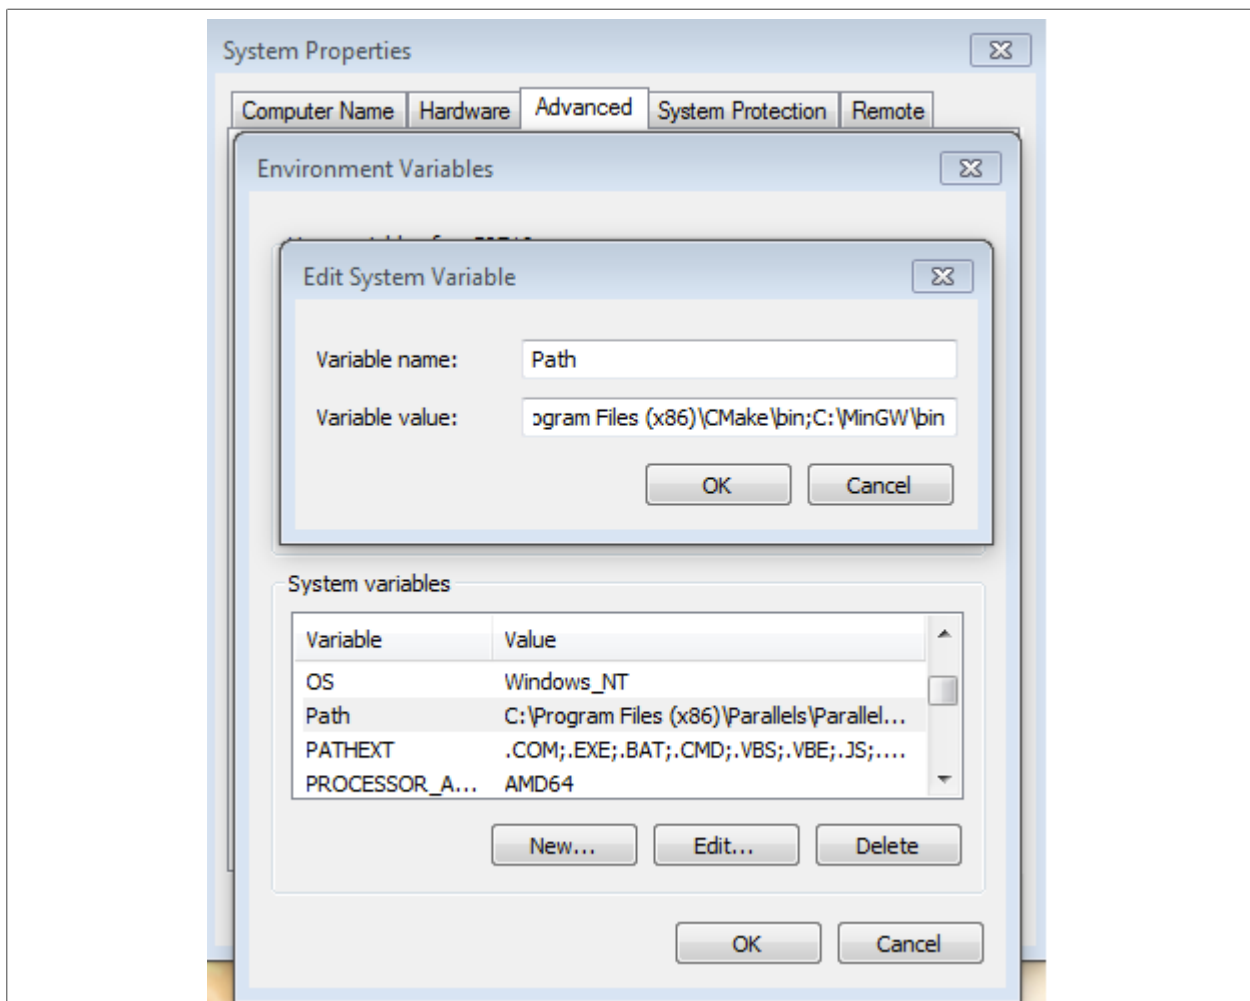

Figure 32. Add Path to systems environment
5. Add the appropriate item to the Windows operating system path environment variable. It can be found under **Control Panel->System and Security->System->Advanced System Settings** in the **Environment Variables...** section. The path is: <mingw_install_dir>\bin. Assuming the default installation path, C:\MinGW, an example is as shown in Figure 32. If the path is not set correctly, the toolchain does not work.